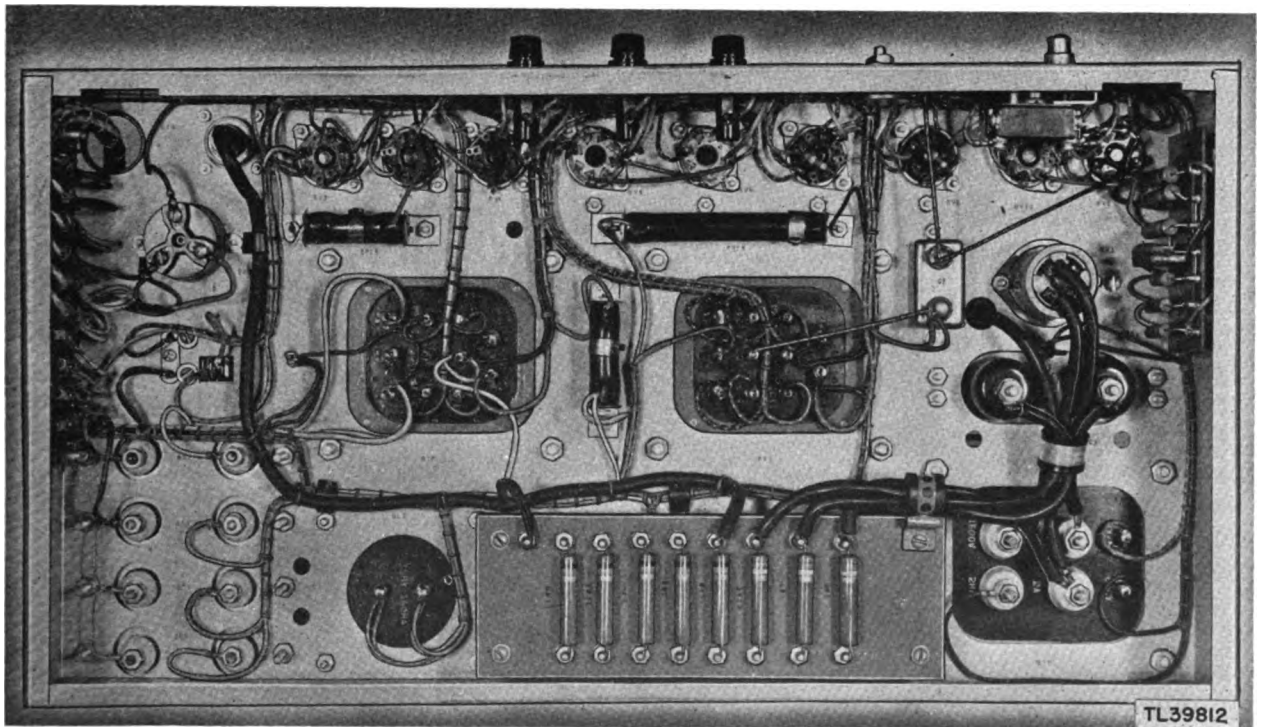

Figure 196. Power Supply Unit RA-100-A, under side of chassis.
(5) Pull the unit forward carefully. Do not place undue strain on cable 12.
(6) Pull the unit out on the floor by lifting the front end carefully and allowing the unit to rest on its rear end. Reattach cords 13 and 21. The bottom view of Power Supply Unit RA-100-A is given in figure 196.